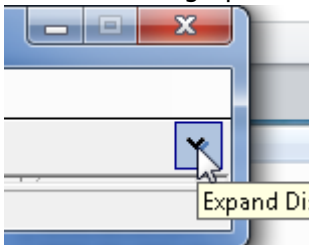

Figure 5. Expanding Display in VA
3. If VisualAnalog opens with a collapsed view, click on the “Expand Display” icon (see figure 5)